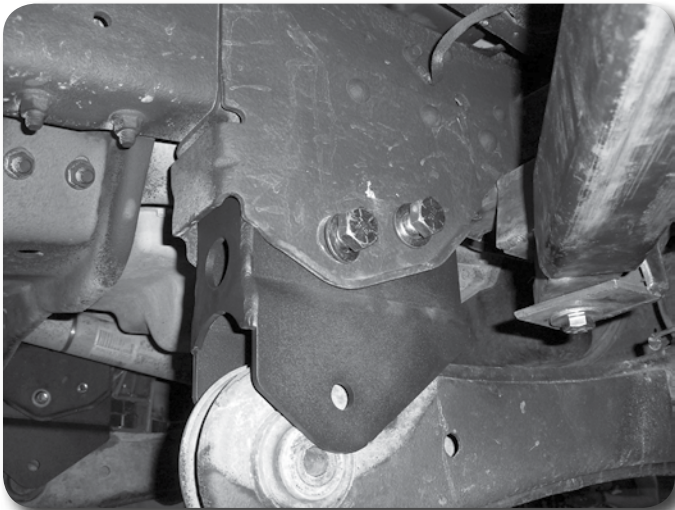

Figure 12
19. Install the new provided radius arm bracket into the factory frame bracket. Align the hole in the bracket with the factory mount holes and install 3/4" x 5" bolts, nuts and washers in the holes. **Figure 12** With both bolts installed, torque hardware to 250 ft-lbs.